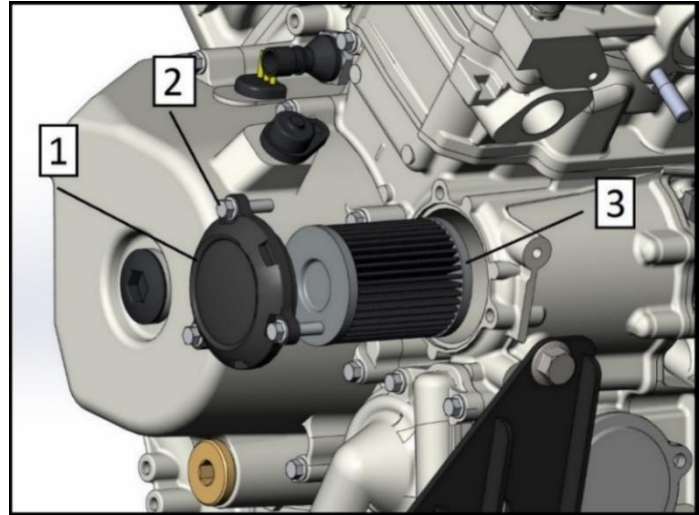

Fig. 7
5、 Take out the oil filter and recycle it (Item 3, Figure 7).